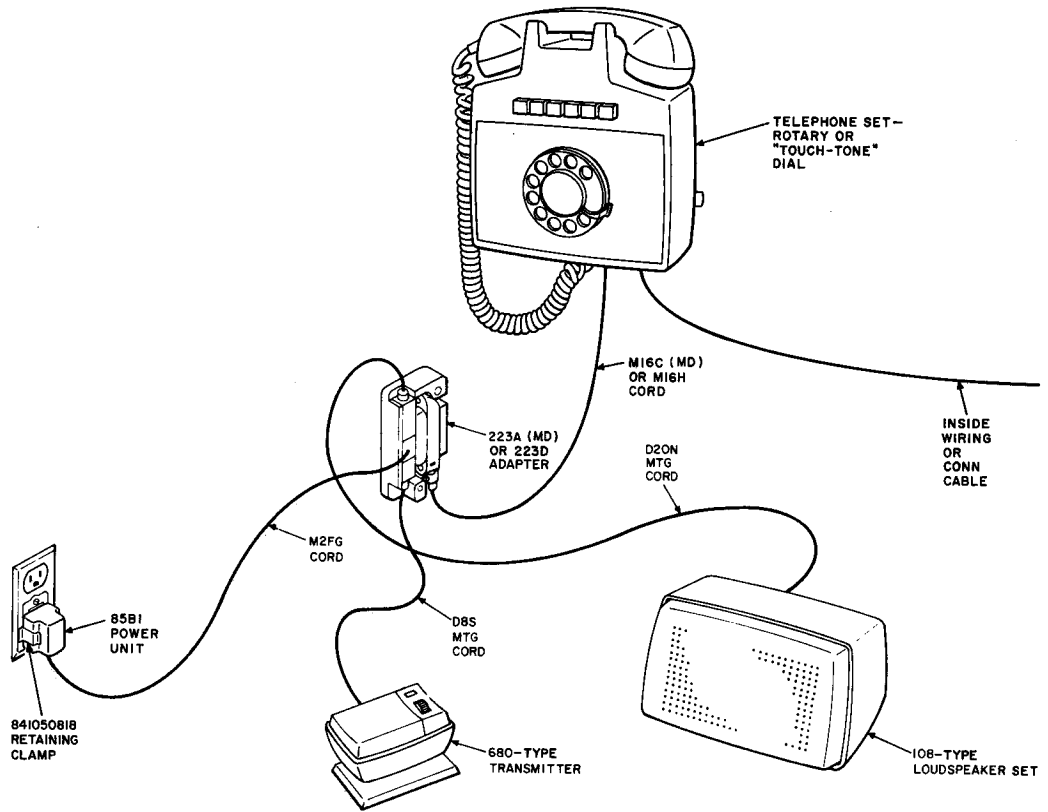

Fig. 1—4A Speakerphone System Arrangement, 6-Button Wall Telephone Set
**2.09** Power can be provided by making connections as shown in Fig. 1, 2, and 3.